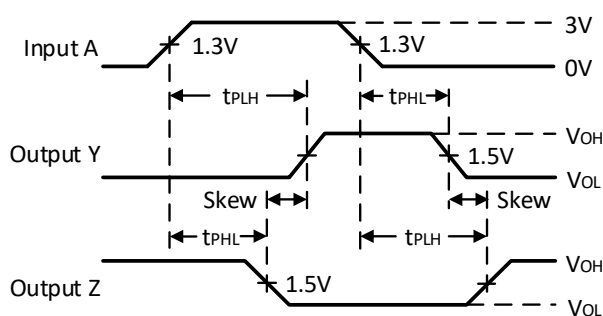

Figure 2. Propagation Delay Time and Skew
4. Test propagation delay time and skew. It needs to open S1 and S2. The corresponding test waveform is shown in figure 2.